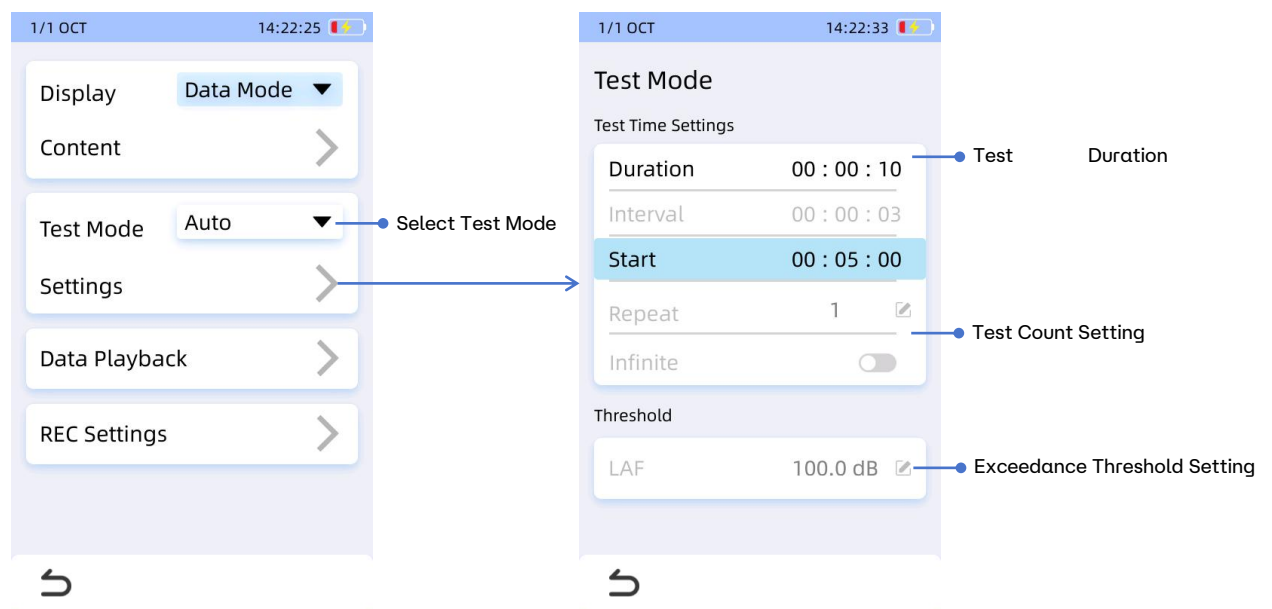

Fig 6.36 Testing Mode Settings
- b. Automatic Mode: After the user clicks the start test button, the application will automatically conduct the first test based on the user's defined duration. After the first test, it will perform a second test after the interval set by the user, and this process will repeat. The number of repetitions is set by the user. If the infinite repeat option is enabled, automatic testing will continue until manually stopped by the user. The settings interface for automatic testing is shown in Figure 6.36, where the start test time cannot be edited.